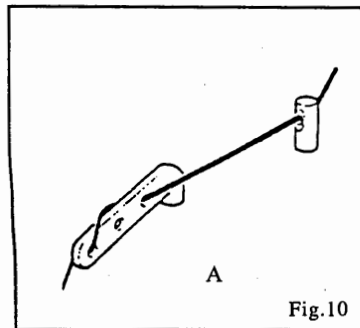
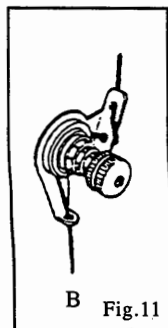
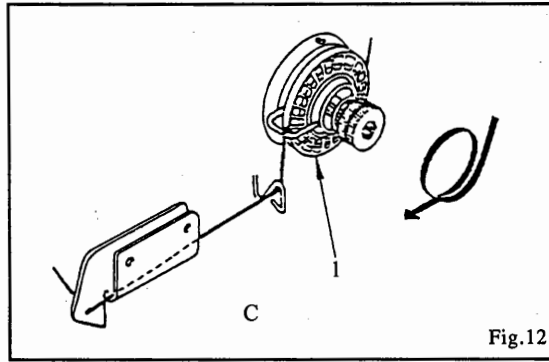

Fig. 10
Fig. 11
Fig. 12
Pass the thread from the unwind through threading points A (Fig. 10), B (Fig. 11), C (Fig. 12) and D (Fig. 13) in the order shown.
NOTE: When passing thread through threading point C (Fig. 12), wind thread around rotary tension wheel (1) once.